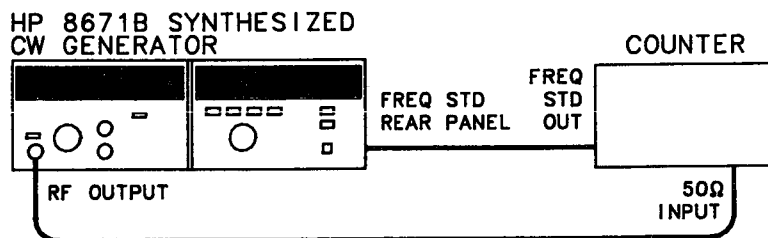

Figure 4-1. Frequency Range and Resolution Test Setup
1. Connect the equipment as shown in Figure 4-1. Set the CW Generator rear panel INT/EXT switch to EXT. Remove **FREQ STANDARD** jumper and connect A3J10 to the 10 MHz frequency standard output of the frequency counter.